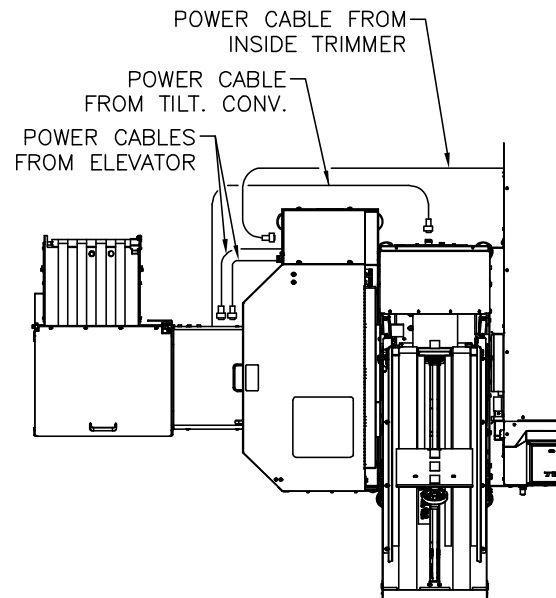

Figure 2-16. Power Cable Connections
3. Connect the power cables as shown in Figure 2-16.